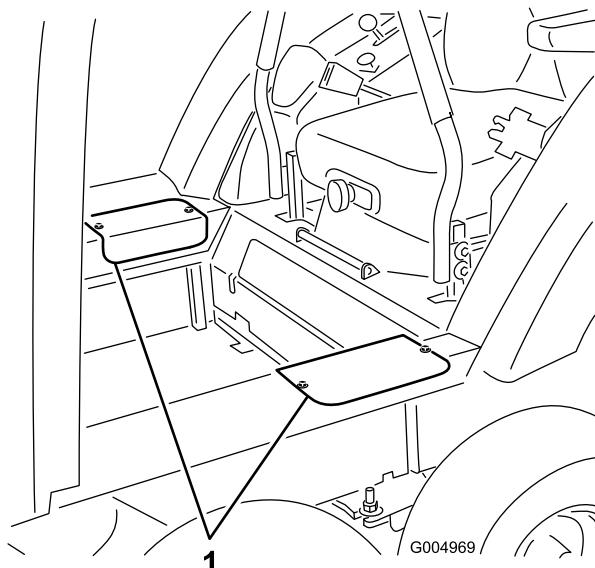

Figure 57
23. Re-install the side access covers with the screws previously removed (Figure 57).